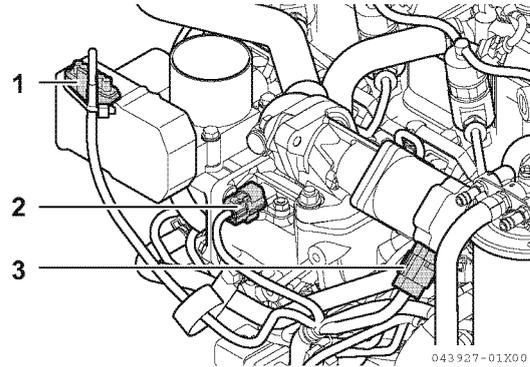

Figure 6-4
- Remove electric wirings from each of intake throttle (1, **Figure 6-4**), ambient air temperature sensor (2, **Figure 6-4**), and EGR valve (3, **Figure 6-4**).